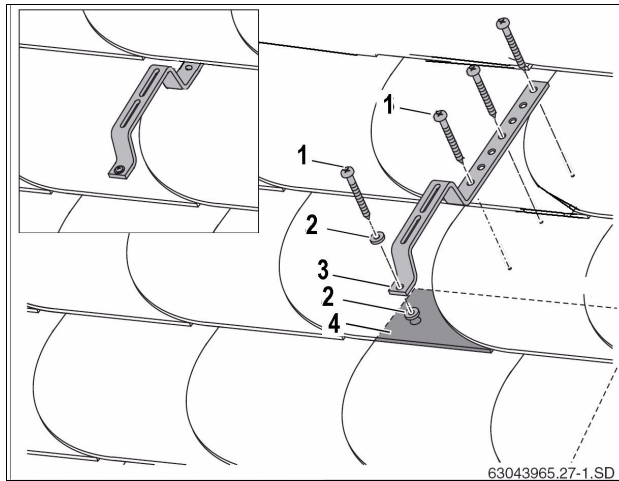

Fig. 23 Mounting on shingle roof
Fig. 23 shows a typical installation of the roof hook on an asphalt shingle, flat shingle, or slate roof. The long part of the hook faces upward and is covered by the adjacent rows of shingles.
- ▶ Install roof hook (Fig. 23, [3]) and gasket (Fig. 23, [2], not supplied) to the shingles using screw (Fig. 23, [1]).